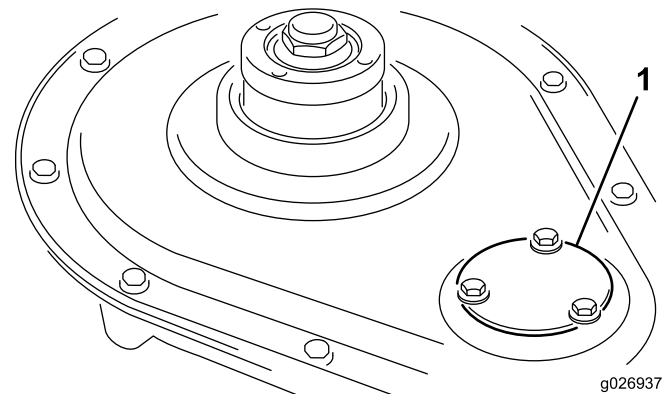

Figure 15
3. Remove the reel pinion cover (Figure 15).